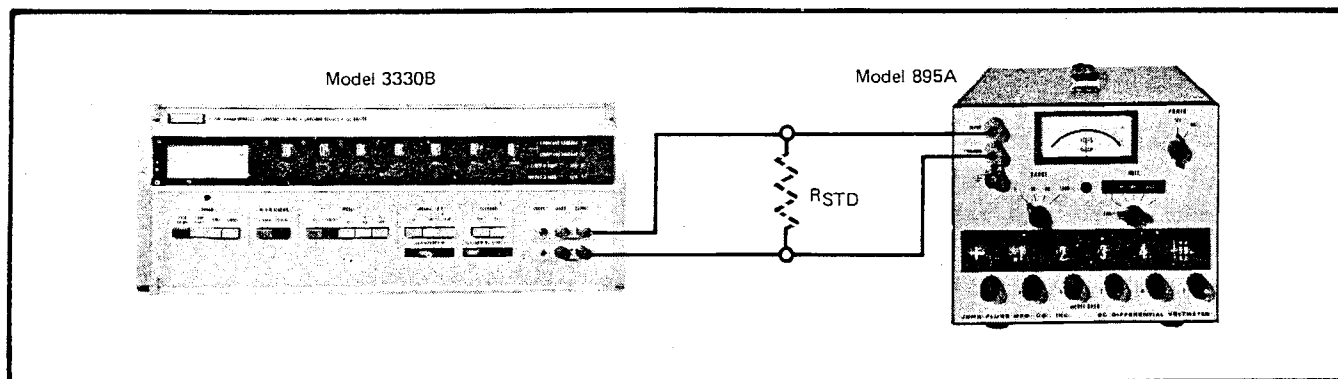

Figure 4-2. MA MODE ACCURACY CHECK – EQUIPMENT CONNECTIONS
- c. Make the equipment connections shown in Figure 4-2. The R_{STD} resistor is a 1K, 0.001W.